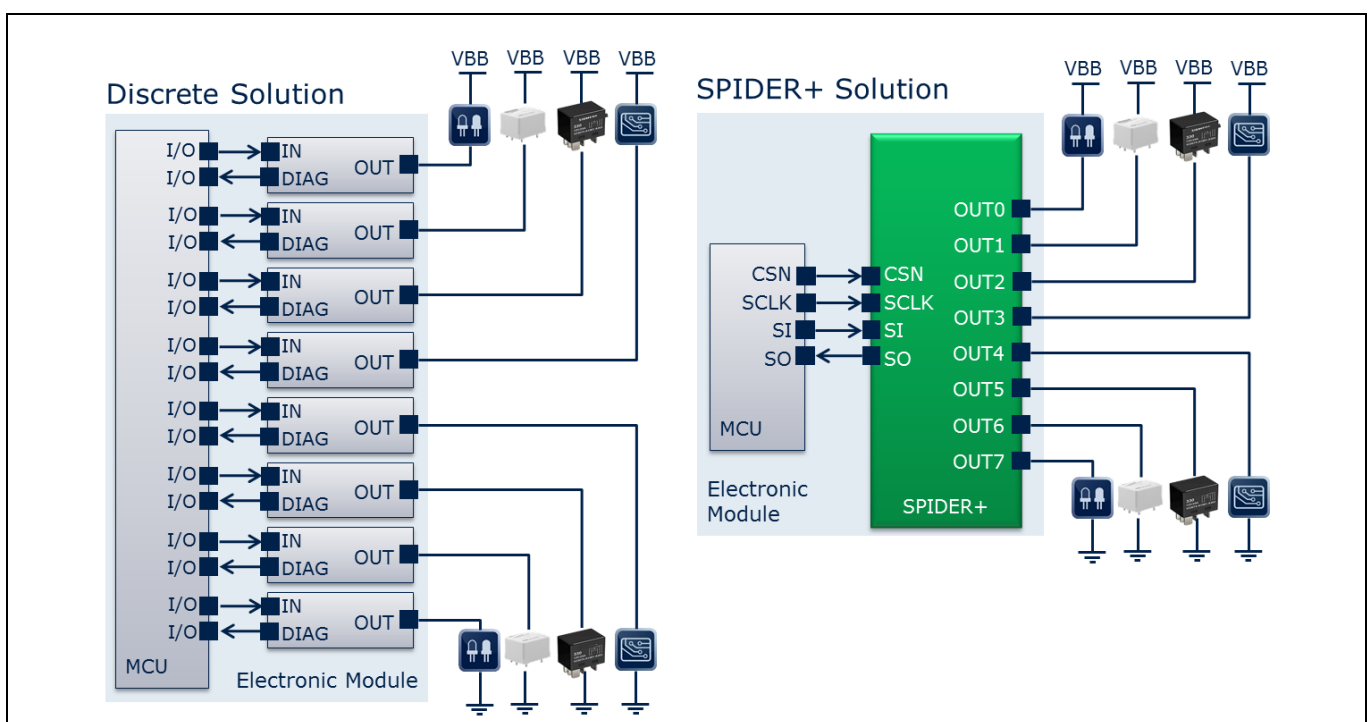

Figure 1 SPIDER+ solution versus discrete solution
- SPIDERS have SPI (serial peripheral interface). By the addition of a serial communication protocol, the number of microcontroller inputs and outputs (I/O) required for control and diagnosis is significantly reduced compared to a discrete solution. A quick comparison is shown in Figure 1.